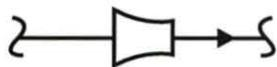

Figure 48. Flow Sensing Element Symbol
2. Determine what type of flow sensing element symbol is shown in figure 48.